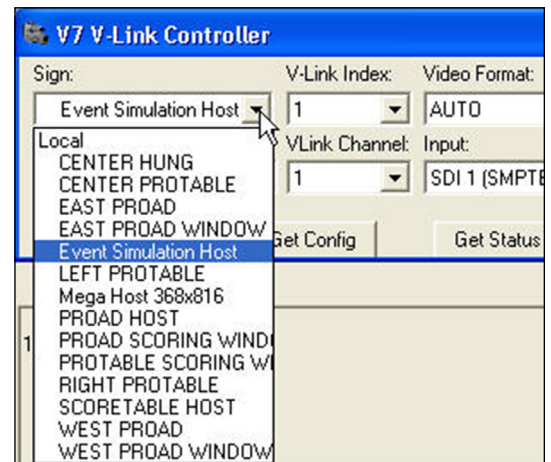

Figure 21: Selecting Sign
3. Select the sign connected to the VIP-4400 from the Sign drop-down menu. Refer to Figure 21.